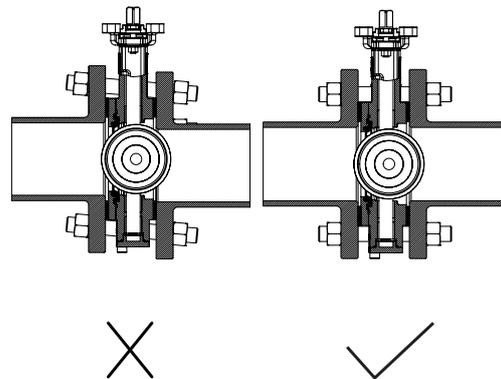

Figure 3
5) Before tightening the bolts, make sure that there is no collision during the valve plate switching process and carefully open the valve as shown in Figure 3.